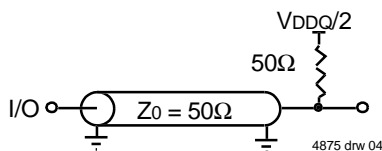

Figure 1. AC Test Load
AC Test Load	See Figure 1
- These parameters are guaranteed with the AC load (Figure 1) by device characterization. They are not production tested.